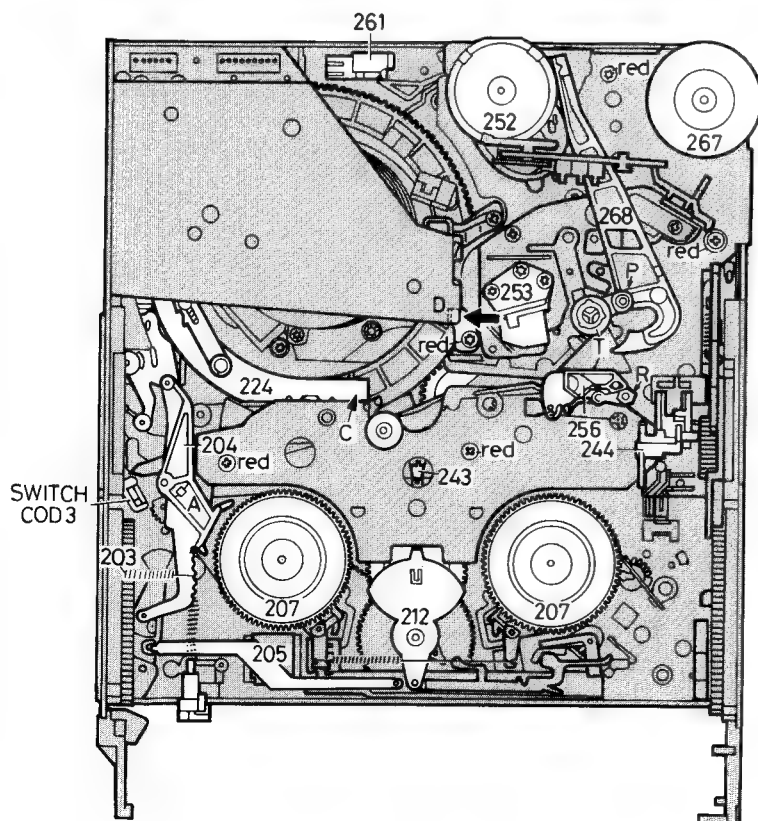
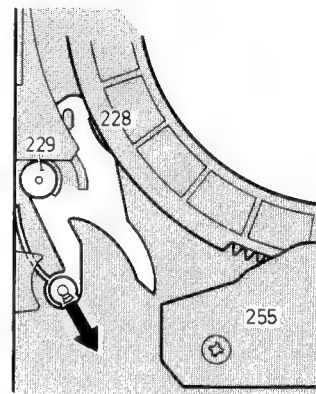

Fig. 1-8
Fig. 1-9
- Unhook spring pos. 203 (Fig. 1-8).
- Pull away the tape tension lever pos. 204 after unlocking it by A.
- Unlock the hinged lever, lift it slightly up, swing it toward the right and remove it. See Fig. 1-9.
- Thread in halfway C (Fig. 1-8).
- Demount drive belt pos. 239.
- Unscrew the red fixing screws of the top plate. 4x 'plastite' screws, 1x 'taptite' screw (Fig. 1-8).